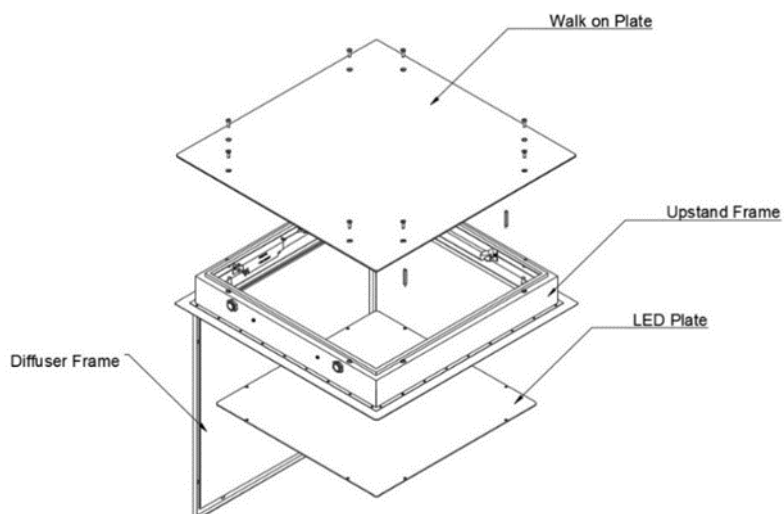
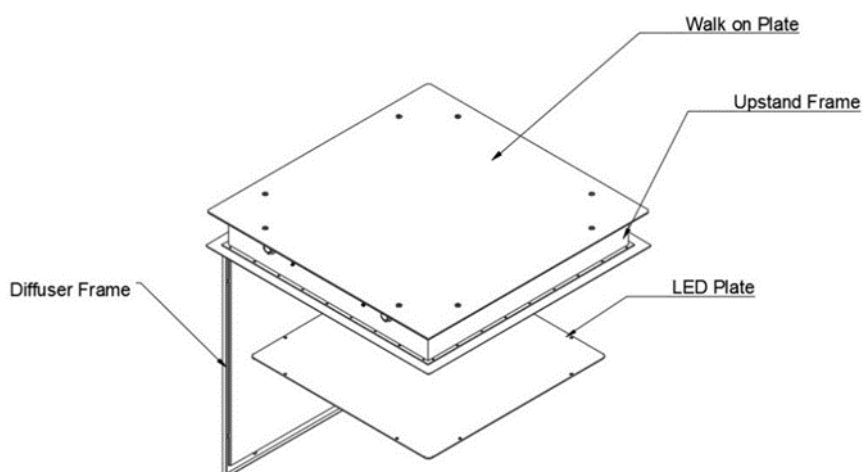

Fig 1
Fig 2
3. (Person 2): From position on the walk on ceiling, take the walk-on plate (Fig 1) and place it in the aperture, align with the upstand frame and the using the 8 bolts, bolt the plate and frame together so that the fitting clamps around the ceiling panel. (Fig 2).
4. Attached the power connections to the LED Plate and place the LED plate in the fixture (Fig 2). Using the brass stand-off legs and the wings nuts securing the plate in place.